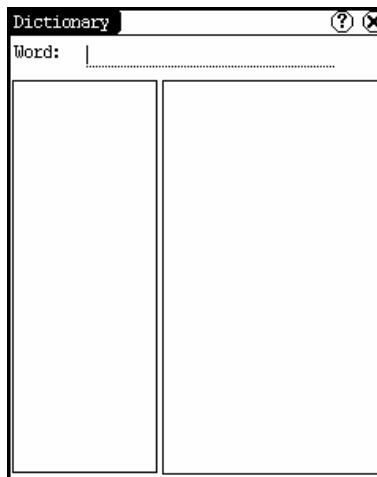

Figure 4-12
- 1) In the pop-up menu of 'Tools', select 'Dictionary' to open the Dictionary interface. (See Figure 4-12)